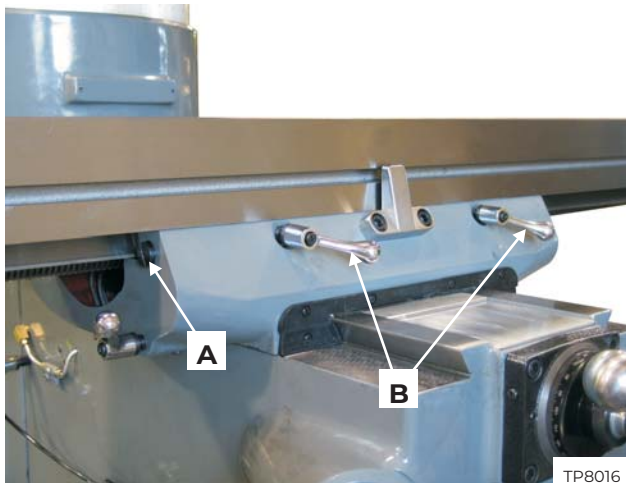

Figure 3.10 - Left
1. Loosen table clamps "B", Figure 3.10
2. Tighten left gib screw "A", Figure 3.10, slightly and test the table movement.
1. Loosen left gib screw "A", Figure 3.10